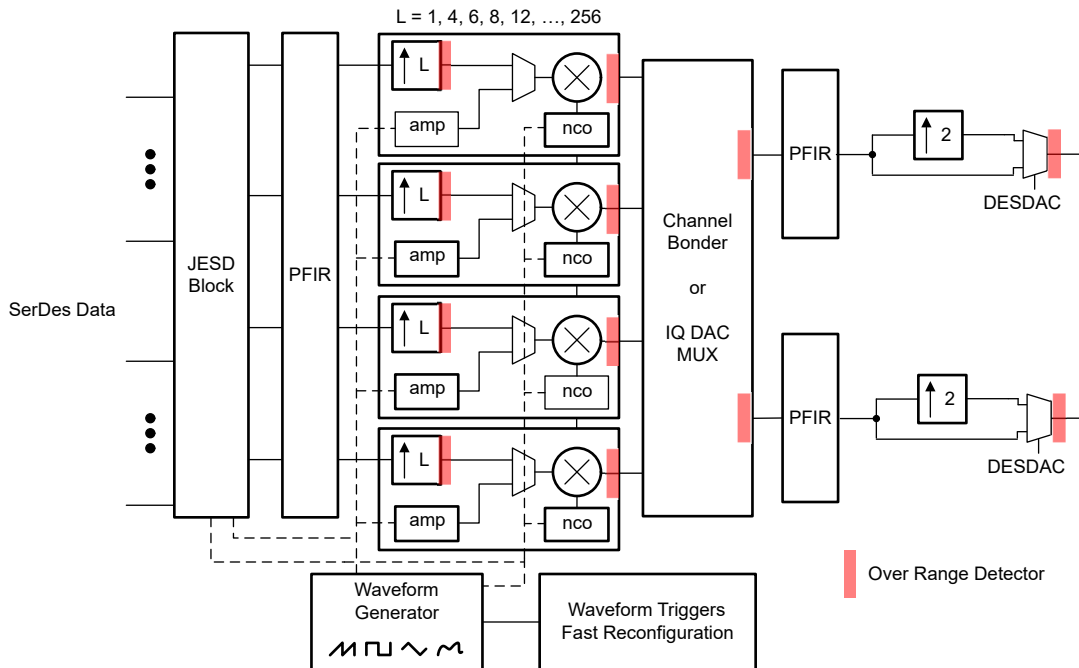

Figure 7-10. Digital Signal Processing Blocks
The digital signal processing blocks are shown in Figure 7-10. The device includes four digital up-converter (DUC) blocks supporting four complex (IQ) input streams that can be combined at different RF frequencies. The four DUCs can be flexibly assigned and summed together for either DAC output in the channel bonder. A programmable FIR filter can be used either at the input to the DUC's or at the DAC sample rate. The final signal processing block is a extra interpolate by 2 for use with DES mode.